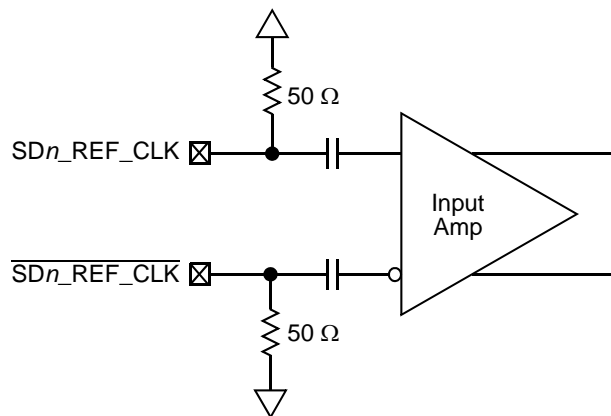

Figure 45. Receiver of SerDes Reference Clocks
Figure 45 shows a receiver reference diagram of the SerDes reference clocks.
- The  $\overline{SDn\_REF\_CLK}$  and  $SDn\_REF\_CLK$  are internally AC-coupled differential inputs as shown in Figure 45. Each differential clock input ( $\overline{SDn\_REF\_CLK}$  or  $SDn\_REF\_CLK$ ) has a 50- $\Omega$  termination to  $SGND\_SRDSn$  (xcorevss) followed by on-chip AC-coupling.